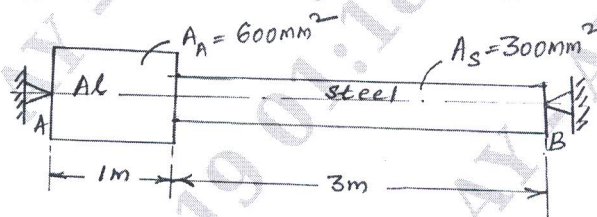

Fig.Q2(b)
- b. A composite bar is rigidly fitted at the supports A and B as shown in Fig.Q2(b). Determine the reactions at the supports when temperature rises by 20° . Take $E_A = 70 \text{ GPa}$, $E_S = 200 \text{ GPa}$, $\alpha_A = 11 \times 10^{-6}/^\circ\text{C}$ and $\alpha_S = 12 \times 10^{-6}/^\circ\text{C}$.